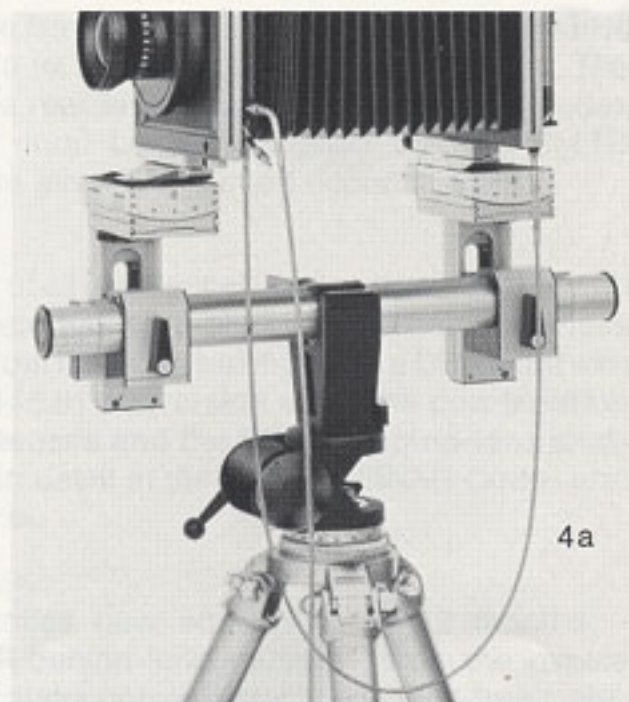
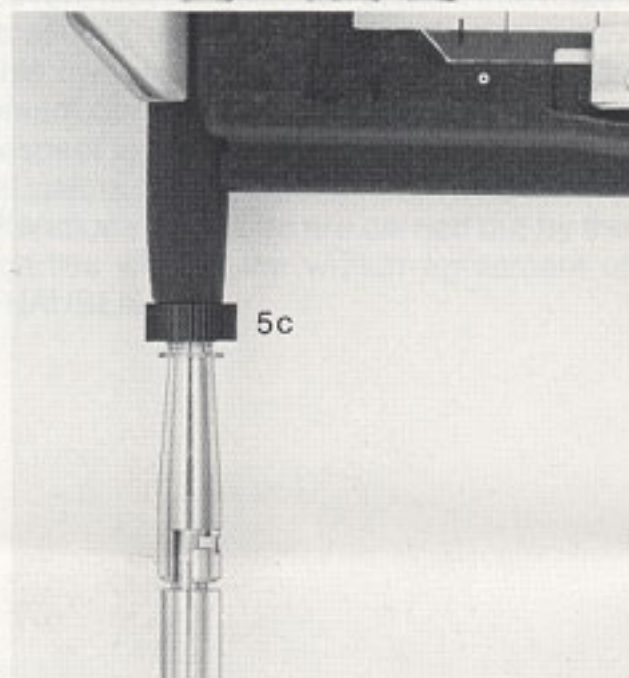

Fig. 4
Fig. 5
(figs. 4, 5 and 10)
- Fully screw in the cable at the shutter end (the end with the thread) as shown in figure 4, then.
- Screw the bayonet connector in at the camera back — but do not tighten yet — and put in the cable (fig. 4 and fig. 5).
Adjust the cable length with the milled nut 5c (fig. 5) on the bayonet connector until the upper edge of the lever 1b on the shutter is **between** the two red index marks 5b. This completes the adjustment. Firmly tighten the nut 5c. Remove the film holder from the camera back.